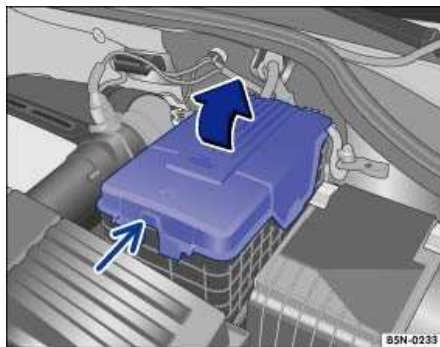

Fig. 17 Open the vehicle battery cover.
- Unlock the cover on the plastic battery case ⇒ Fig. 17 (arrow) and swing it back.